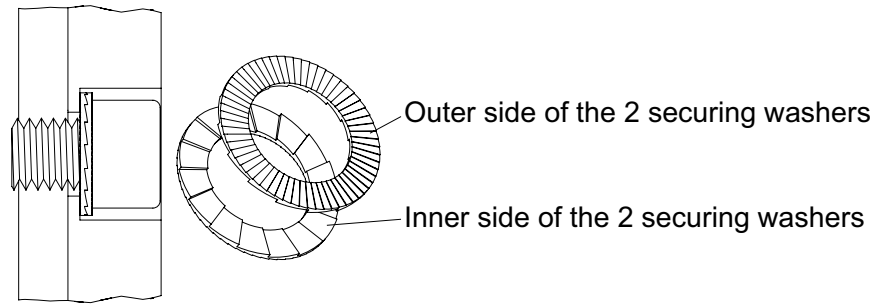

Figure 5 Correct fitting position of the Nord-Lock® securing washers
**Ensure that the fitting position and tightening torque of the Nord-Lock® securing washers is correct as in Figure 5 and table for tightening torque!**
- Lightly grease the propeller boss and shaft end. Check key (7/19) for wear or damage and replace if necessary.
- Press on the securing rings (7/106) in the correct installation location (see *Figure 5*).